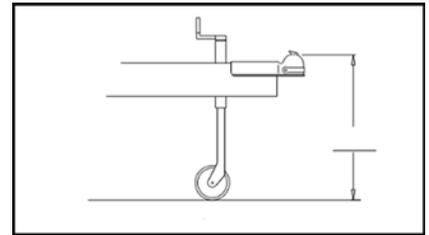

Figure 8: On a level surface, measure the height of your trailer coupler to ground.
•Line up tow vehicle and trailer on level pavement, in straight-ahead position, uncoupled. Level the trailer and measure and record the distance from the ground to the top of the coupler (see Figure 8).